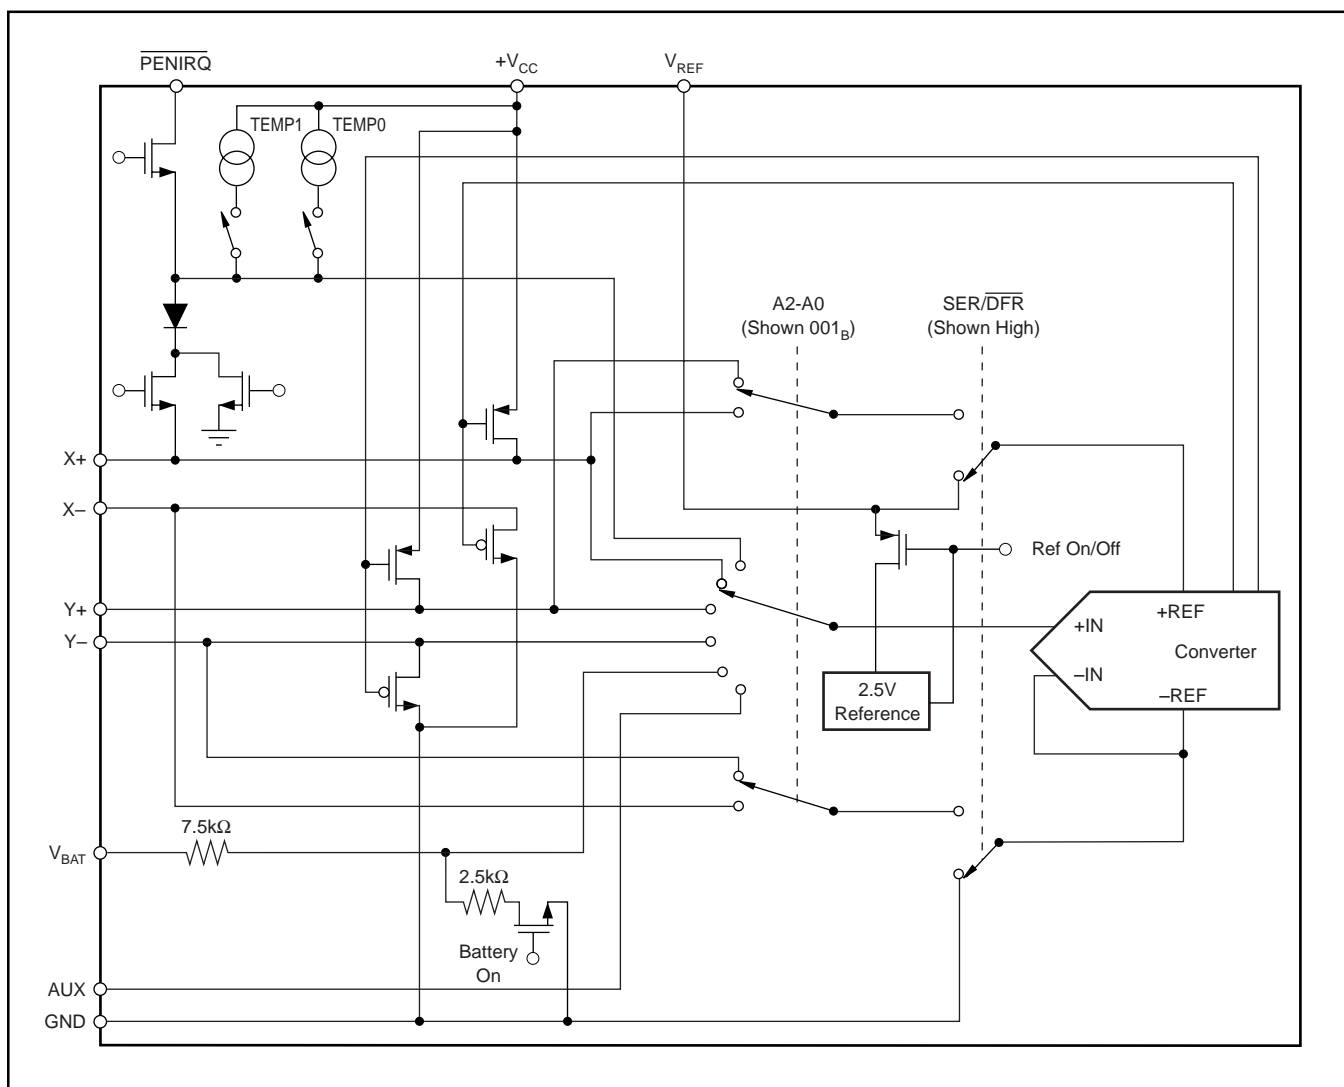

FIGURE 2. Simplified Diagram of Analog Input.
See Figure 2 for a block diagram of the input multiplexer on the ADS7846, the differential input of the ADC, and the differential reference of the converter. Table I and Table II show the relationship between the A2, A1, A0, and SER/DFR control bits and the configuration of the ADS7846. The control bits are provided serially via the DIN pin—see the Digital Interface section of this data sheet for more details.
When the converter enters the hold mode, the voltage difference between the +IN and –IN inputs (see Figure 2) is captured on the internal capacitor array. The input current into the analog inputs depends on the conversion rate of the device. During the sample period, the source must charge the internal sampling capacitor (typically 25pF). After the capacitor has been fully charged, there is no further input current. The rate of charge transfer from the analog source to the converter is a function of conversion rate.
The voltage difference between +REF and -REF (shown in Figure 2) sets the analog input range. The ADS7846 operates with a reference in the range of 1V to +VCC. There are several critical items concerning the reference input and its wide voltage range. As the reference voltage is reduced, the analog voltage weight of each digital output code is also reduced. This is often referred to as the LSB (least significant
**Addressing**—The next three bits (A2, A1, and A0) select the active input channel(s) of the input multiplexer (see Tables I, II, and Figure 2), touch screen drivers, and the reference inputs.
**$SER/\overline{DFR}$** —The  $SER/\overline{DFR}$  bit controls the reference mode, either single-ended (high) or differential (low). The differential mode is also referred to as the ratiometric conversion mode and is preferred for X-Position, Y-Position, and Pressure-Touch measurements for optimum performance. The reference is derived from the voltage at the switch drivers, which is almost the same as the voltage to the touch screen. In this case a reference voltage is not needed, as the reference voltage to the ADC is the voltage across the touch screen. In the single-ended mode, the converter reference voltage is always the difference between the  $V_{REF}$  and GND pins (see Tables I and II, and Figures 2 through 5 for further information).